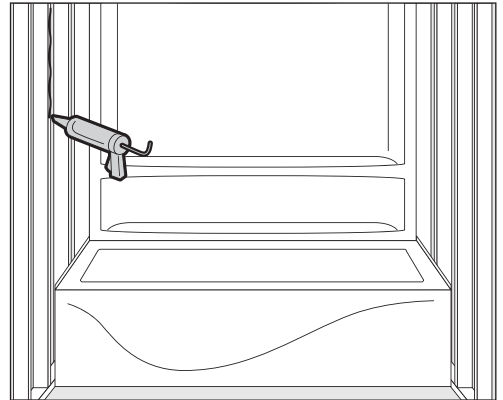

FIGURE 6. Apply adhesive.
- Apply adhesive to each stud for faucet side panel and push panel firmly into place. **(Fig. 6)**